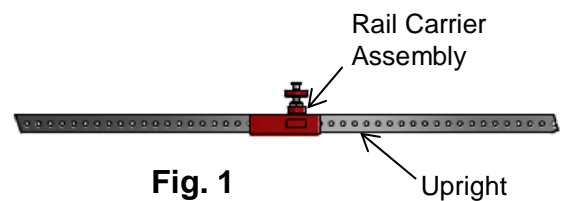

Fig. 1
1. Pre-assemble (8) Rail Carriers on (8) Adjusting Tubes (see Fig. 1).